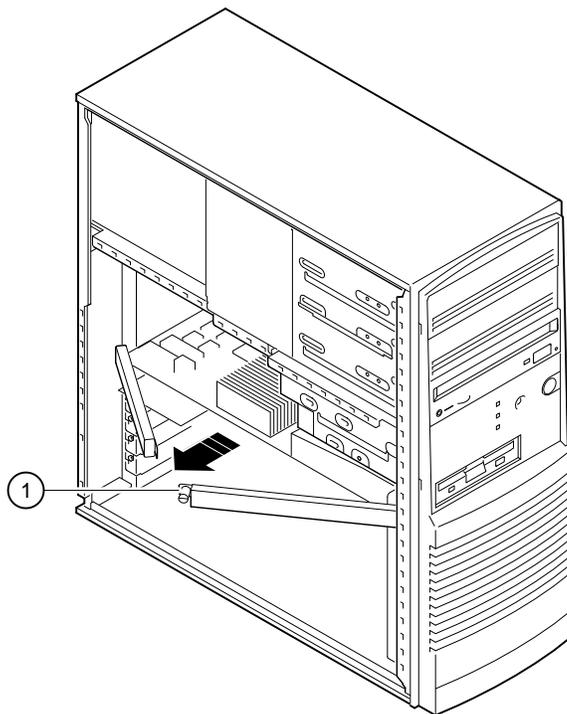

Figure 4-4. Removing CPU Assembly
3. Carefully remove the screw located in the center of the bracket **X** (see Figure 4-4, which shows the bracket that holds the CPU assembly in place.)